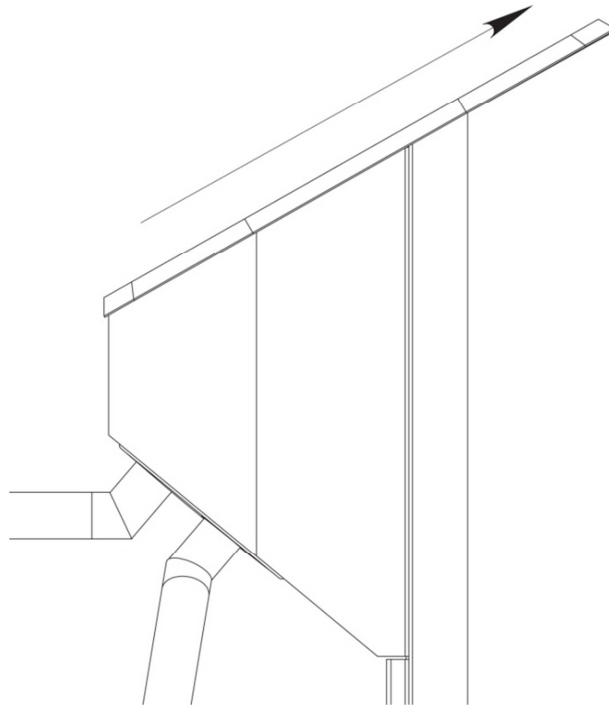

Fig. 4 Central stand of turnstile
- slide the display panel in the direction indicated in Fig. 4, and lift it up;